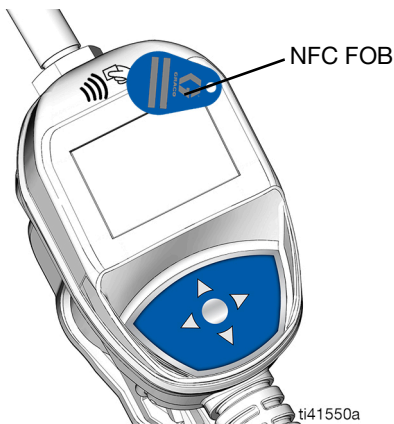

FIG. 59
2. Touch the NFC fob to the indicator at the top of the bezel, as shown in FIG. 59, to send the NFC Code to the Pulse Fluid Management Software for authorization.